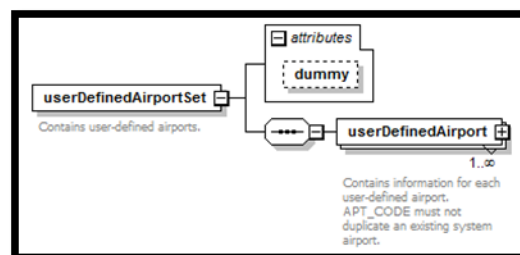

Figure 60- xml userdefinedairportset
10. AsifXml/study/userDefinedAirportSet/userDefinedAirport (Figure 60):